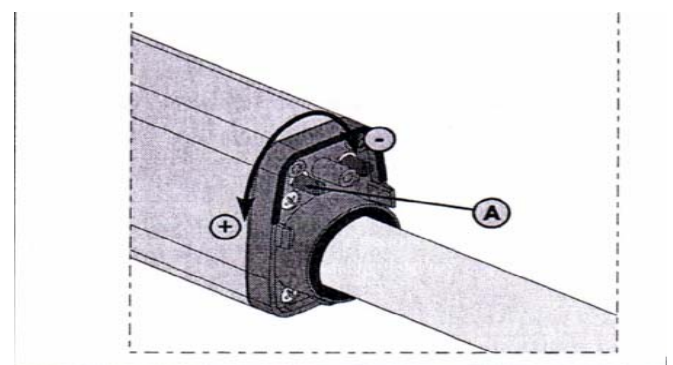

Figure 13.
3. To adjust the opening limit switch (FCA) turn the adjusting screw counter-clockwise figure 13 ref. A, to increase the rod stroke, and clockwise to reduce it.